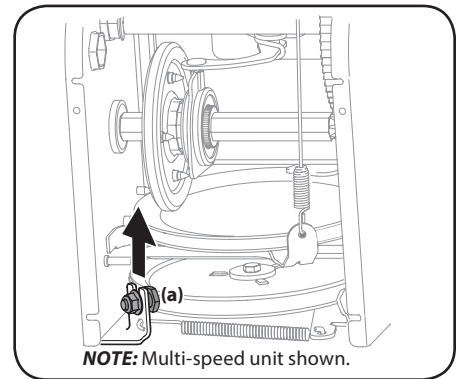

Figure 4-17
6. Loosen and remove shoulder bolt (a) which acts as a belt keeper. See Figure 4-17.
NOTE: Make sure to reinstall shoulder bolt (a) and reconnect spring to frame after installing a replacement auger belt. Refer to Figure 4-17.